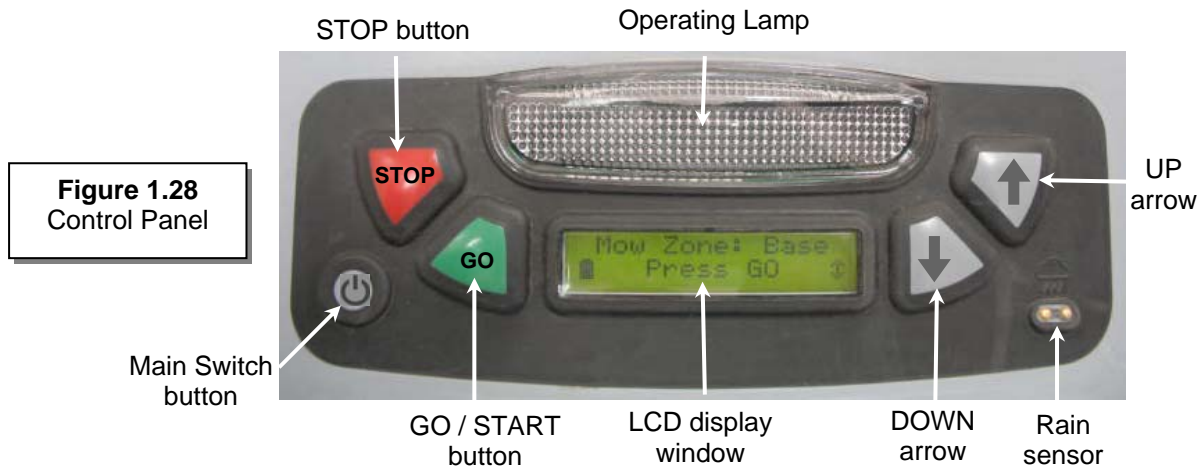

Figure 1.27 -
- Your Robomow is shipped with the batteries fuse removed and it will not operate without it. The fuse is assembled inside its rubber cover, located under the Bumper Cover (Figure 1.27).
- Lift the Bumper Cover, remove the partition and insert the fuse. The fuse can be inserted in either direction. See figure 1.27